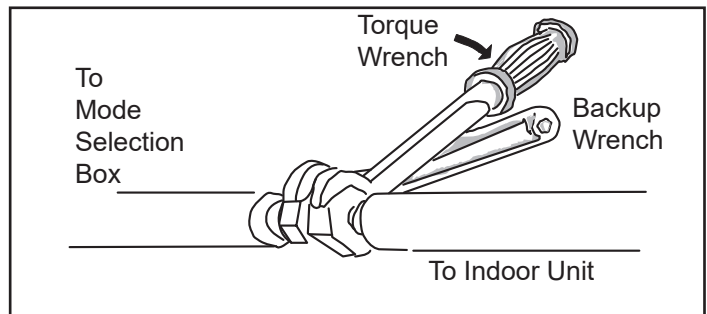

**Figure 5. Making Connections (Male to Female Connection)**
4. Apply recommended R-410A refrigerant lubricant to the outside of the flared refrigerant lines (Figure 5-A).
5. Align the threaded connections with the flared refrigerant lines. Tighten the flare nuts lightly at first to obtain a smooth match (Figure 5-B).